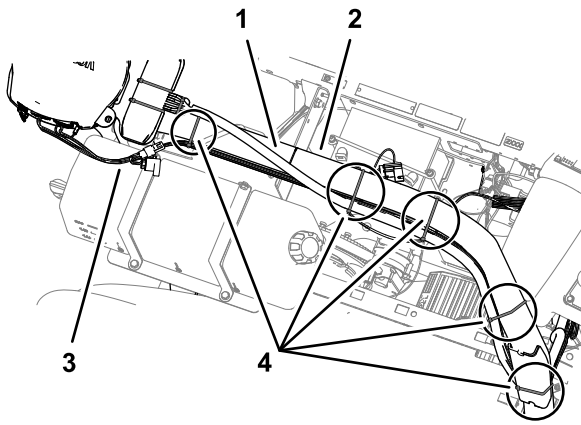

Figure 163
1. Route the navigation-data and electrical harness along the right roll bar tube and the modem-antenna harness to the cross member for the seat support (Figure 163).
- 2. Secure the harnesses to the roll bar with 5 cable ties as shown in Figure 163.